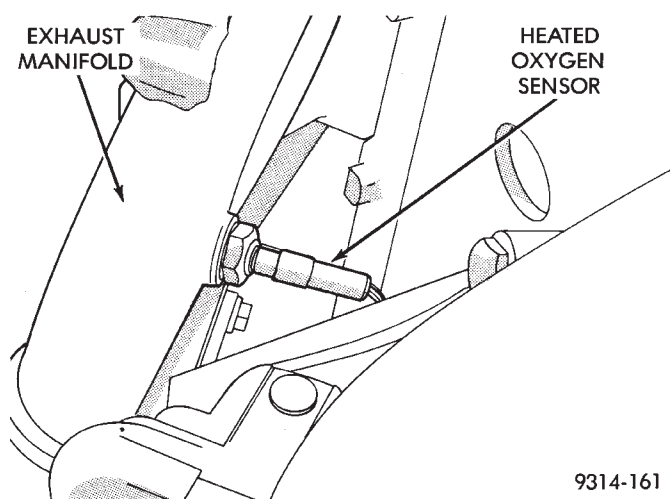
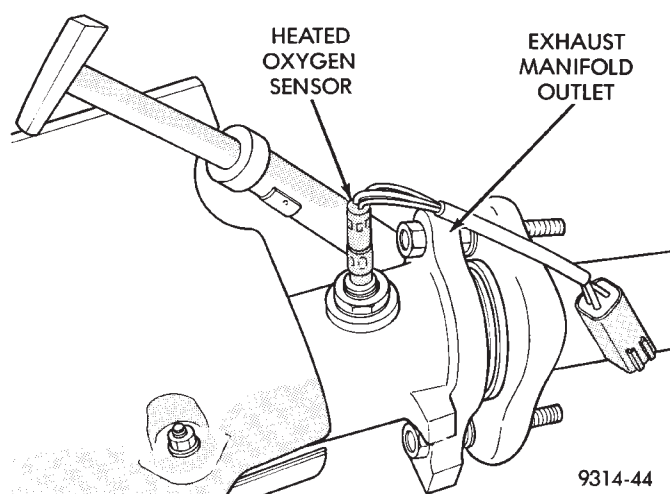

Fig. 18 Heated Oxygen Sensor—3.3L Engine
Fig. 19 Heated Oxygen Sensor—3.5L Engine
(20) Ensure the electrical connectors are attached to the heated oxygens sensors (Fig. 18 or Fig. 19).